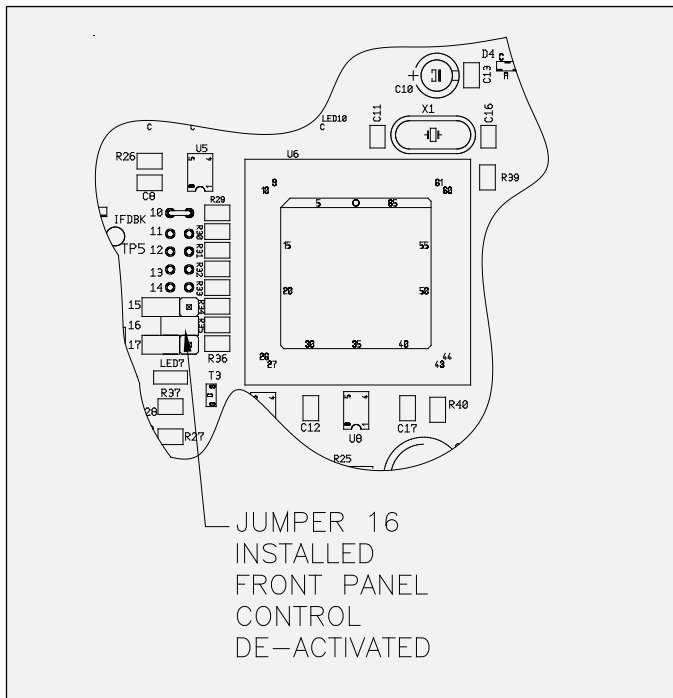

Figure 9: Jumper Location - Front Panel Lockout
3. Place the jumper across the two (2) pins at location 16 on the main PC board (see Figure 9).